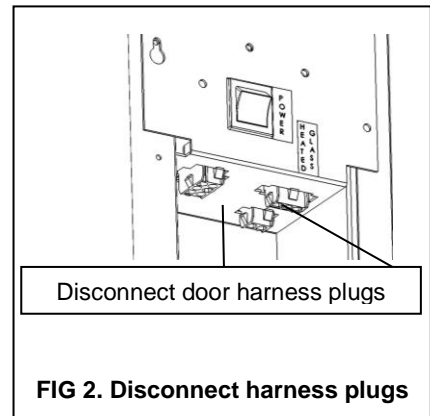

FIG 2. Disconnect harness plugs
- Unplug the door harness and glass heater harness (option) from the power panel (See Figure 2).